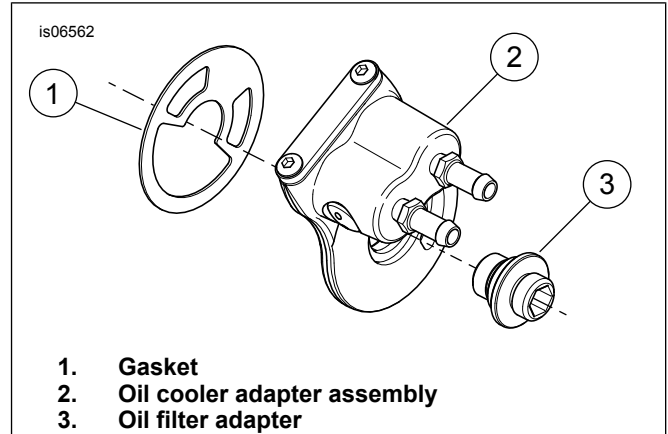

Figure 2. Install Oil Cooler Adapter Assembly
4. See Figure 2. Install the gasket (1), oil cooler adapter (2) and oil filter adapter (3). Make sure the oil cooler adapter locates properly in the mounting surface and the hex side of the mounting fitting faces out. Tighten mounting adapter to 24.4–29.8 N·m (18–22 ft-lbs).